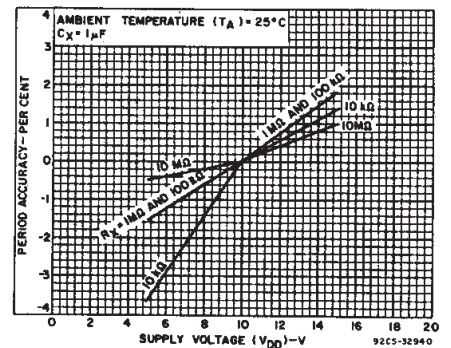

Fig. 11—Typical astable oscillator or Q, \bar{Q} period accuracy vs. supply voltage.
B. Variations Due to V_{DD} and Temperature Changes — In addition to variations from unit to unit, the astable period varies with V_{DD} and temperature. Typical variations are presented in graphical form in Figs. 11 to 16 with 10 V as reference for voltage variations curves and 25°C as reference for temperature variations curves.